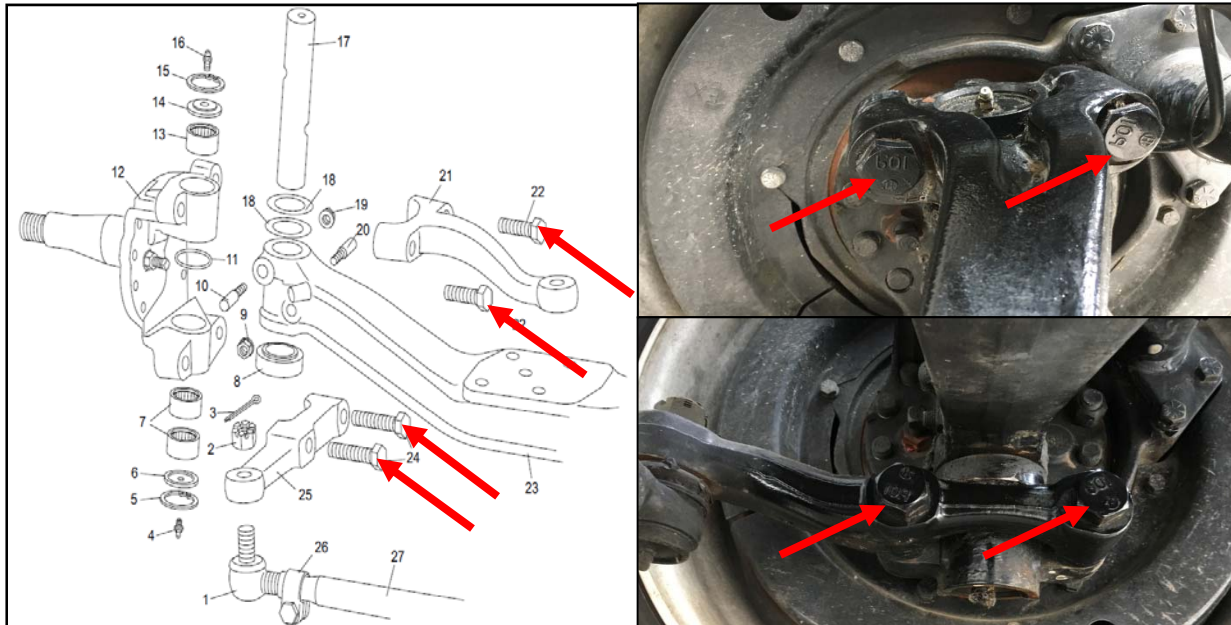

Figure 1 – Steering Arm and Tie Rod Arm Capscrew Location
3. Using a suitable torque wrench, check the torque on the two steering arm capscrews as well as the forward tie rod capscrew on the driver's side and the rear tie rod capscrew on the passenger's side. See Figure 1.